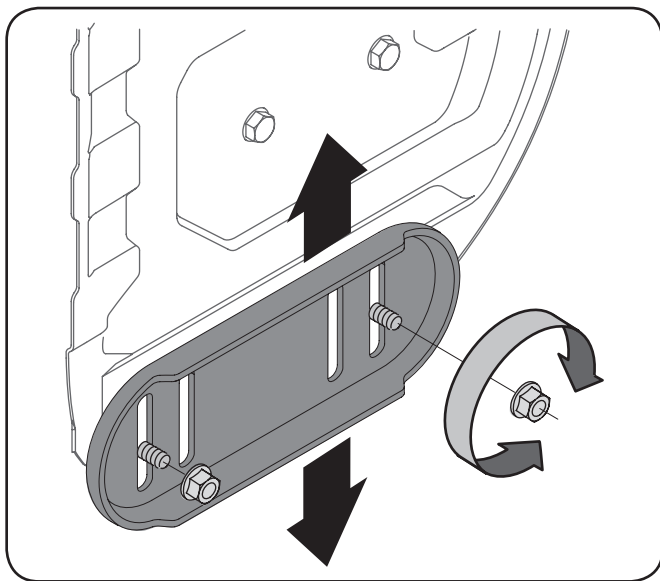

Figure 3-10
1. Loosen the four hex nuts (two on each side) and carriage bolts. Move skid shoes to desired position. See Fig. 3-10.